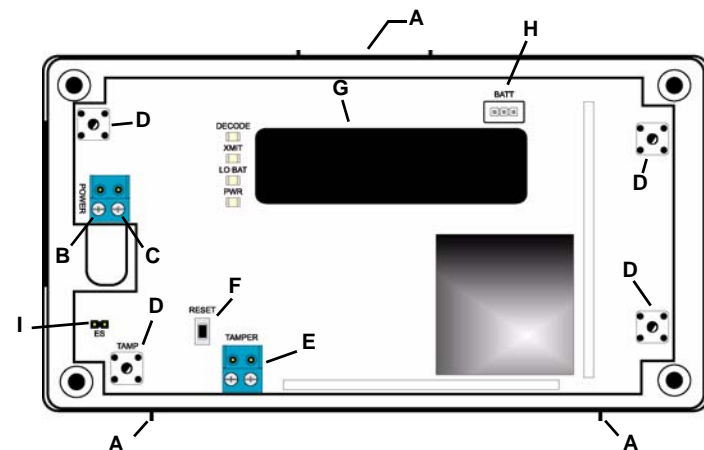

Figure 1 EE5000 Components
- Use a small screwdriver to press the housing release tab on the top or bottom of the repeater (Fig. 1); separate the housing.
- Connect power cabling to the Vs and GND connections (Fig. 1).
- Plug the connector cable from the backup battery into the battery connector (Fig. 1).
- To enable compatibility with ES products, place a selection jumper on the enable EchoStream selection pins (Fig. 1).
- If no ES products are used in your system, remove the selection jumper from the EchoStream selection pins (Fig. 1).